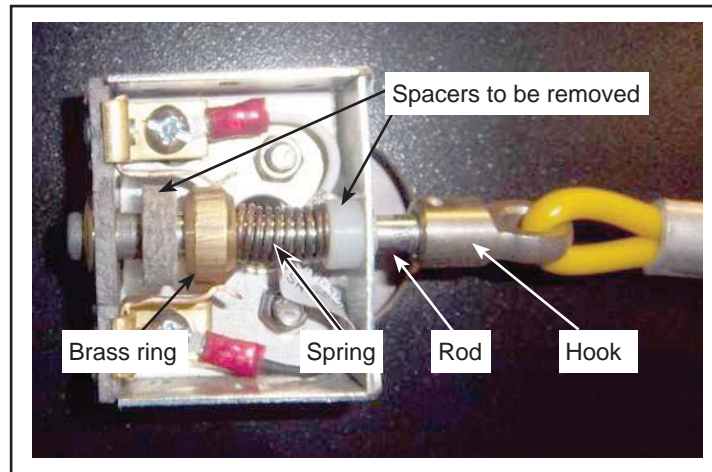

Figure 3 - Next Stop Request Switch Assembly
- 1.3. Remove the switch cover. See Figure 3. Retain the hardware.
- 1.4. Remove the cable hook. Retain the hardware. See Figure 3.
1.5. Remove the switch rod. Discard the two spacers. Retain the rod, the spring and the brass ring. See Figure 3.